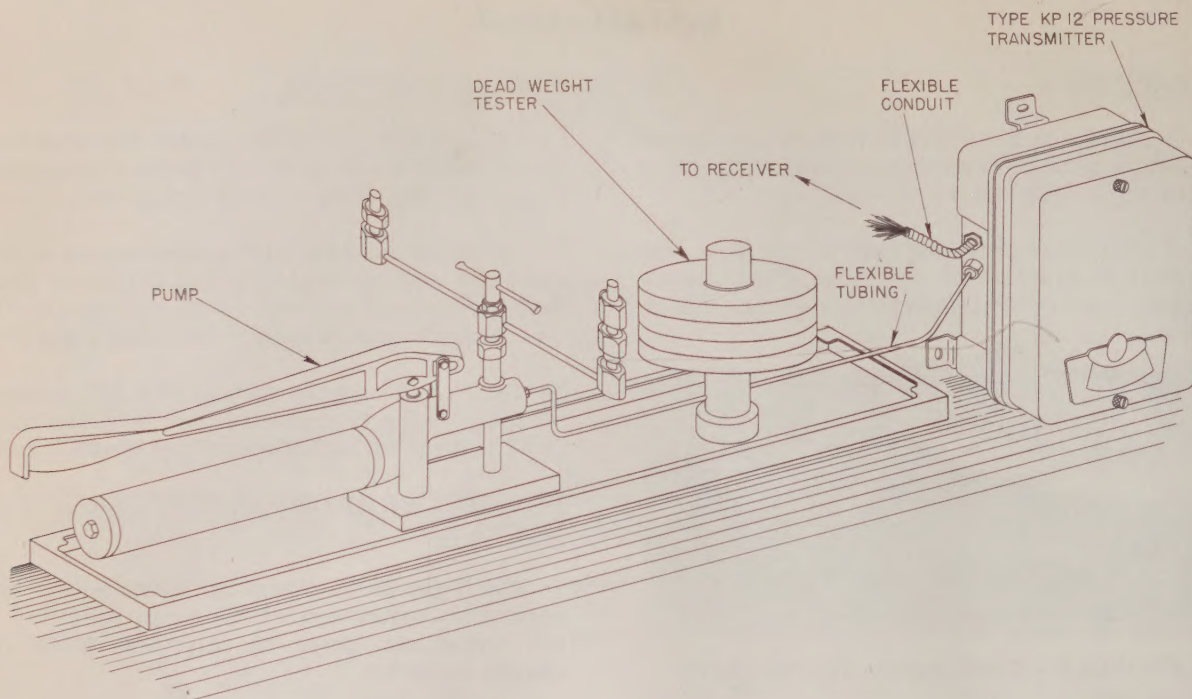
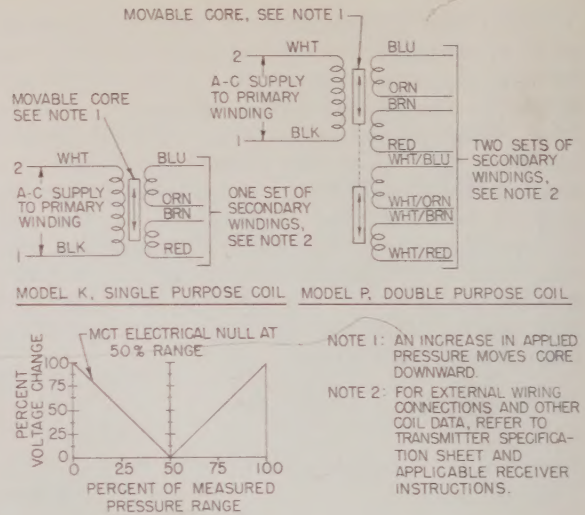

FIGURE 6 - Recommended Calibration Set Up
FIGURE 9 - Schematic of Type KP12 MCT
1. Connect a dead weight tester (Figure 6) or other accurate, adjustable pressure source to flexible tubing (shipped with Transmitter). Refer to Figure 9 for MCT schematic wiring diagram.
The Type KP12 Pressure Transmitter, Model P includes a double purpose coil consisting of two sets of secondary windings (Figure 9). Either set of windings may be connected to a Class B or Class J Receiver.
2. The test equipment (such as that shown in Figure 6) must be accurate and sensitive.
1. Connect Transmitter in calibration setup similar to that shown in Figure 6.